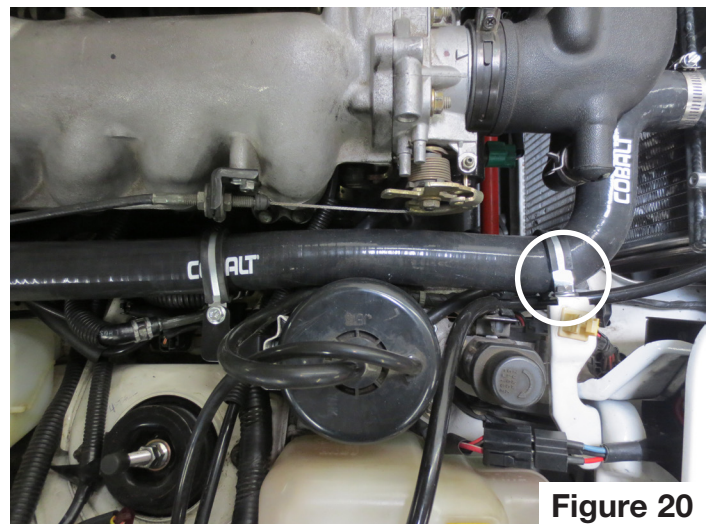

Figure 20
- 20) Remove the EVAP canister by sliding it upward off the bracket. Install the provided hose support bracket using an M6 Bolt and nut as shown. Slide the EVAP canister back into the housing. Install a P-clamp in the bracket as shown. A/C equipped vehicles will have a relay bracket at the location indicated in **Figure 20.** Remove this bracket (if equipped) and secure the relay out of the way with a zip-tie. Install a P-clamp as shown using an M6 bolt.